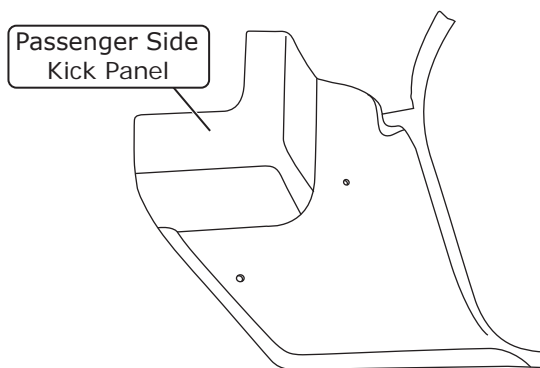

Figure 3
9. Remove the passenger side kick panel/fresh air door assembly as shown in Figures 3 & 4, below.